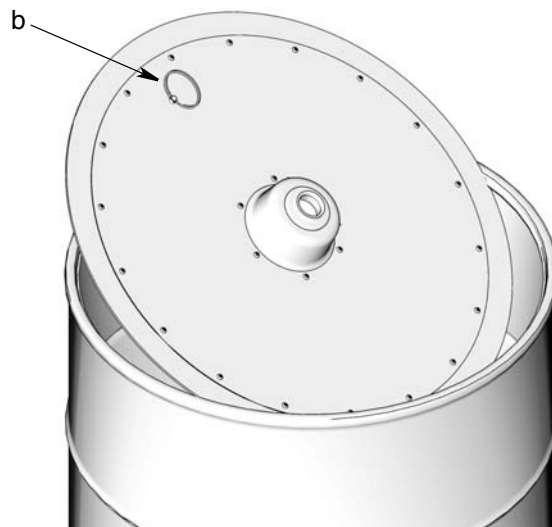

FIG. 6
4. If this is an existing installation, reach into drum and pull on follow plate ring (b) to remove follow plate (FIG. 6). Place follow plate on a clean paper, cardboard or clean shop rags. **DO NOT PLACE ON SHOP FLOOR.**